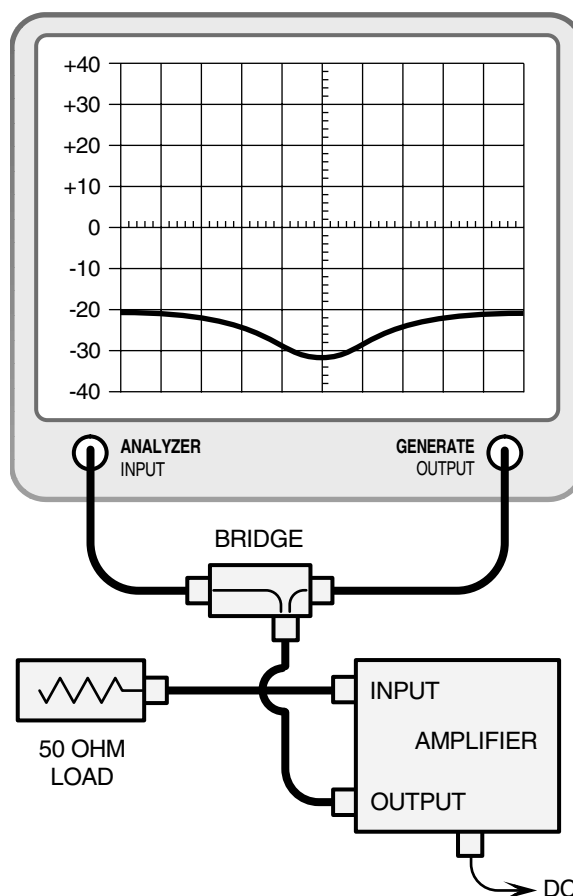

Figure 22: Measuring input return loss.
6) Connect the return loss bridge to the tracking generator as shown in **Figure 22** but do not connect it to the amplifier. Leave the test port on the bridge open.
- 8) Connect the bridge and load to the amplifier as shown in figure 22 and see if the input return loss is down -16 dB or more. If it is, skip to step 10.